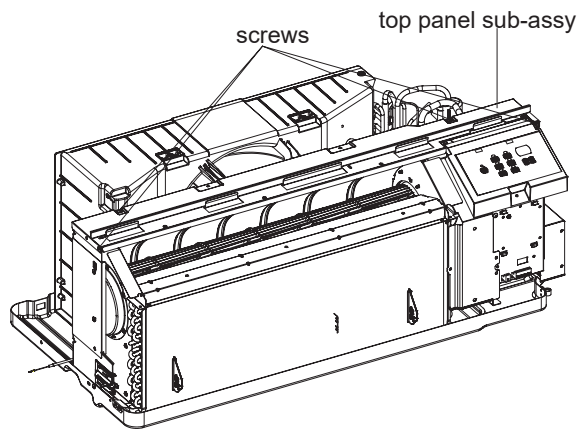

Figure 520
8. Remove top panel sub assy. See Figure 520.